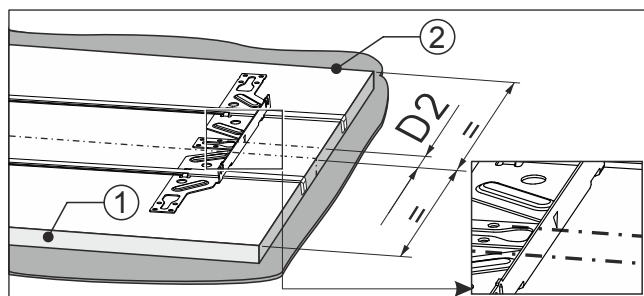

Fig. 89
- ▶ Align the mark on the fastening crossbeam with the mark Fig. 89 (D2) on the cabinet front.